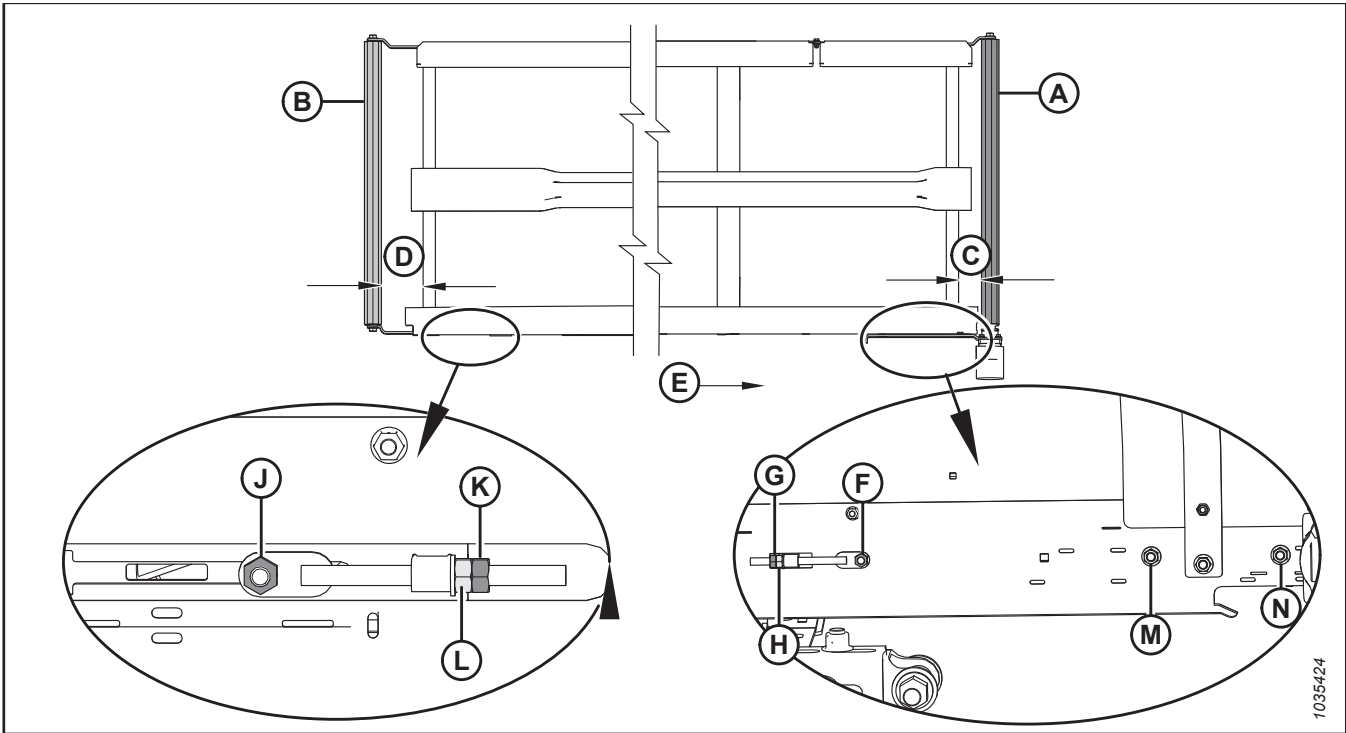

Figure 4.249: Draper Tracking Adjustments – Left Draper
2. Adjust drive roller (A) to change **C** (refer to Table , page 594 and Figure 4.249, page 594) as follows:
- a. Loosen nuts (F), (M), and (N), and jam nut (G).
- b. Turn adjuster nut (H).
- c. Tighten nuts (F), (M), and (N), and jam nut (G).
3. Adjust idler roller (B) to change **D** (refer to Table , page 594 and Figure 4.249, page 594) as follows:
- a. Loosen nut (J) and jam nut (K).
- b. Turn adjuster nut (L).